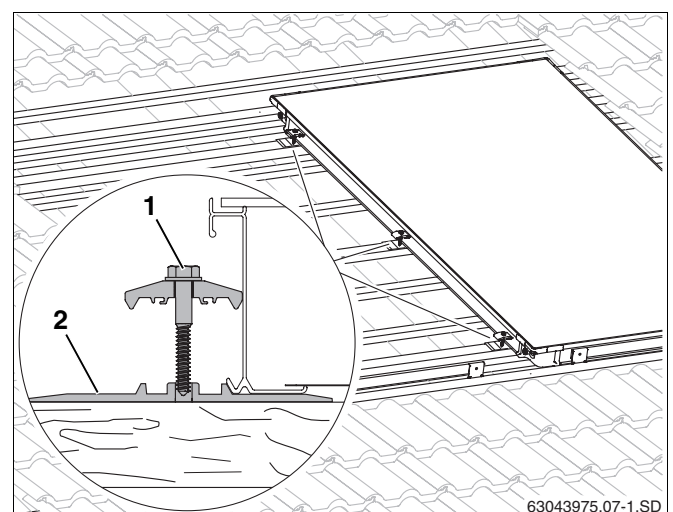

Fig. 26 Double-sided clamp on the first collector
- ▶ Lift collector slightly and, on the 2nd and 3rd additional battens, as well as halfway along the collector on a free batten, push the pack plate (Fig. 26, **Item 2**) with the double-sided clamp under the collector until the roof pushes against the lower edge of the collector.
- ▶ For the screw (Fig. 26, **Item 1**) drill a pilot hole with a 4 mm drill. To mark position, use notch in the pack plate.